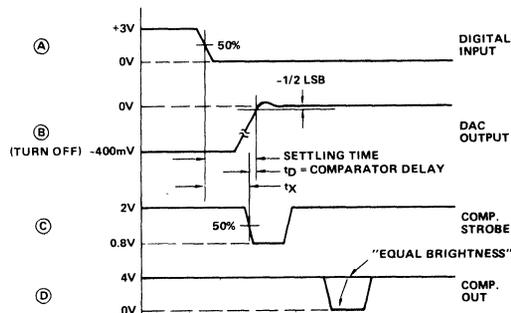

FIGURE 3B.
As shown in Figure 3B, settling time equals t_x plus the comparator delay ($t_D = 15\text{ns}$). To measure t_x ,
- Adjust the V_{LSB} supply for 50 percent triggering at COMPARETOR OUT. This is indicated by traces of equal brightness on the oscilloscope display as shown in Figure 3B. Note DVM reading.
- Switch the LSB to Pulse (P).
- Measure t_x from scope as shown in Figure 3B. Settling time equals $t_x + t_D$, i.e. $t_x + 15\text{ns}$.